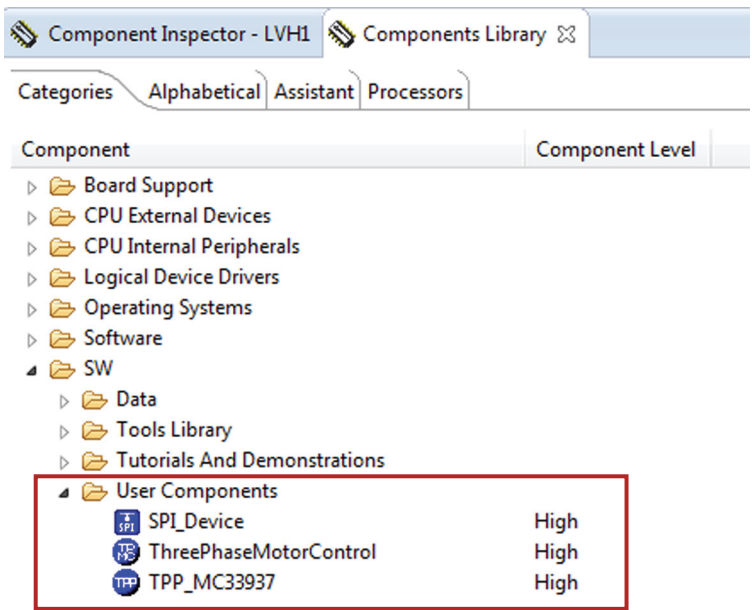

Figure 22. Component Library View
5. After successful installation of the update package(s), the newly installed component(s) become available in Components Library view (See Figure 22).